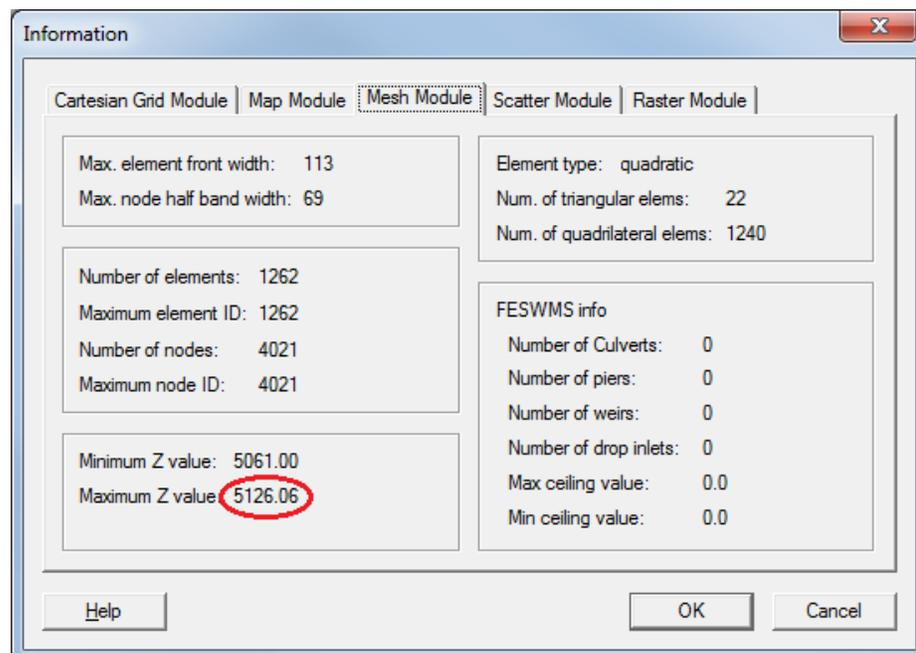

Figure 6 Mesh Information dialog with Maximum Z value highlighted
2. On the *Mesh Module* tab, look at the *Maximum Z value*, indicated in  Figure 6.